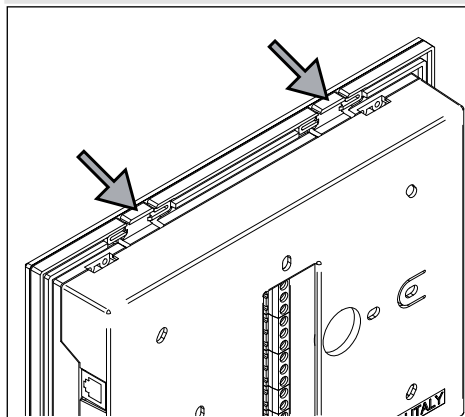
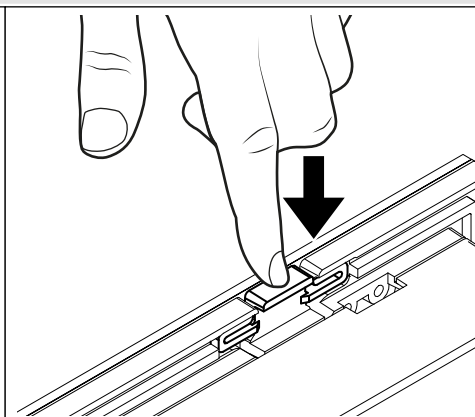
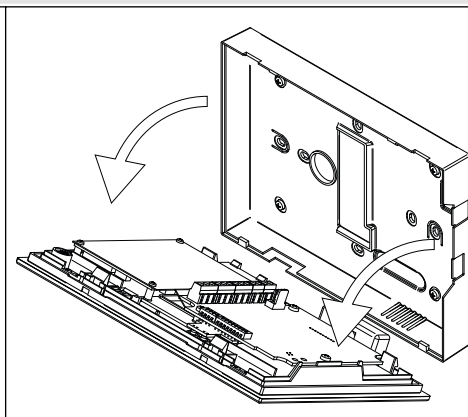

Fig. 1
Fig. 2
Fig. 3
1. To install the videophone, it is necessary to remove the back cover. Apply pressure to the two clips indicated by the grey arrows (Fig. 1) using fingers (Fig. 2) while lightly pulling the upper part in the direction of the white arrows (Fig. 3).